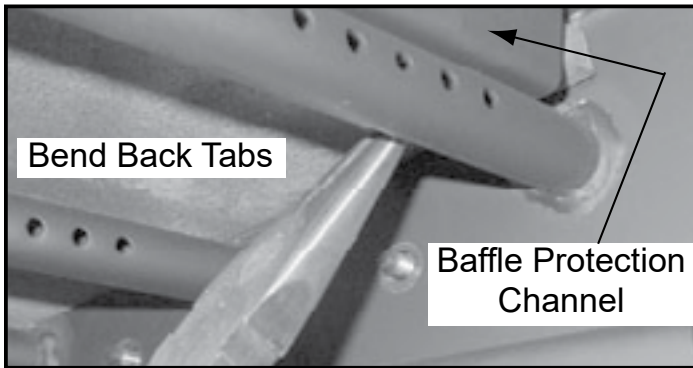

Figure 5.10
2. Remove the baffle protection channel by bending back the tabs using needle nose pliers located at the right and left side of the protection cover. Lift the cover up slightly and pull toward the front and out of the firebox (**Figure 5.10**).